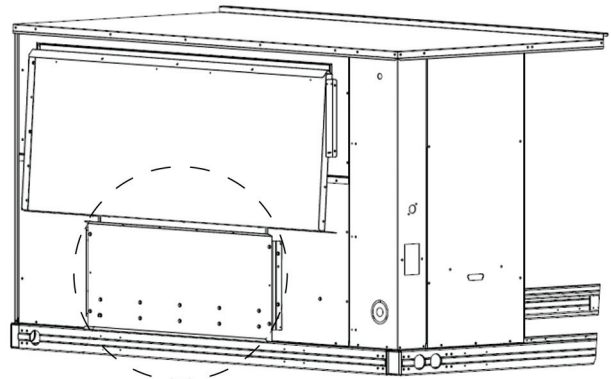

Fig. 24 — Shipping Location, Vertical Units
1. Remove the hood top panel from its shipping position on the unit end (see Fig. 24).